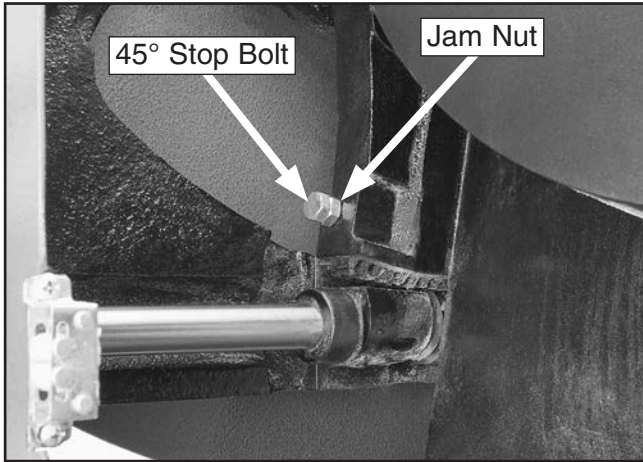

Figure 109. 45° stop bolt and jam nut.
6. Loosen jam nut on 45° stop bolt (see **Figure 109**) then adjust stop bolt in or out according to how far off blade was from 45°.